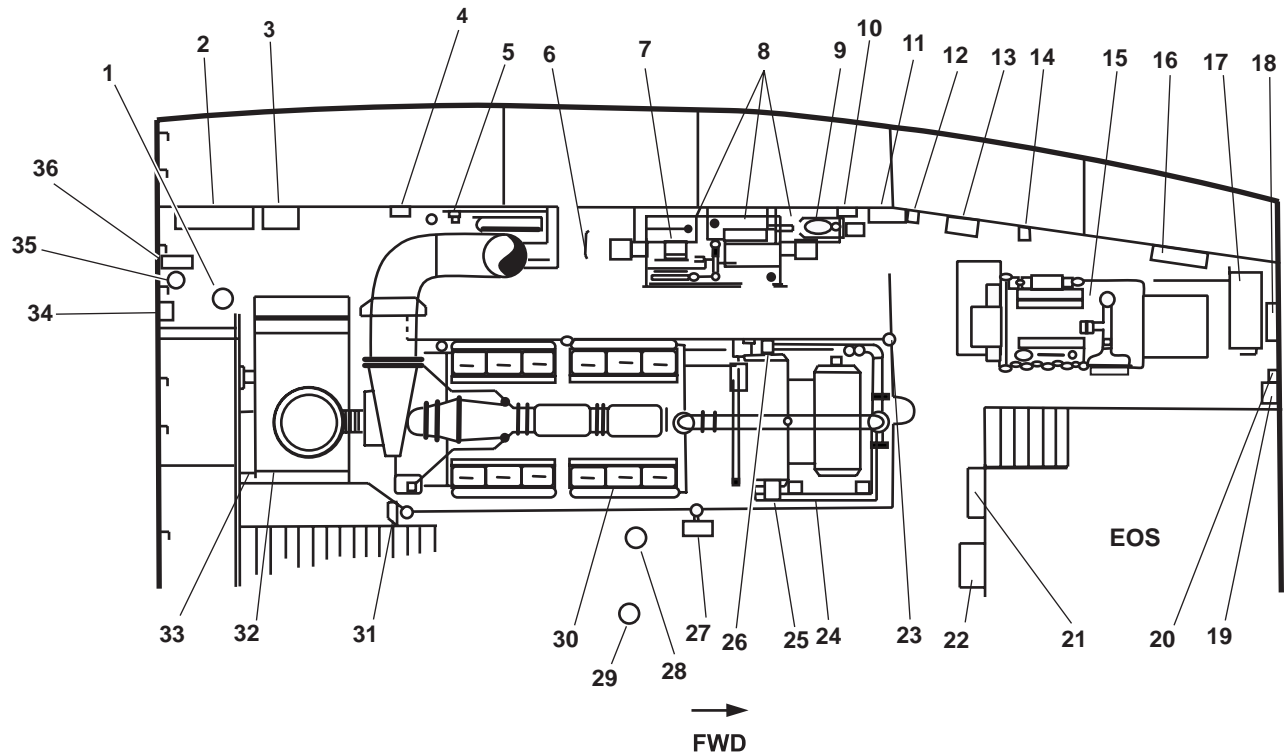

Figure 1. Engine Room, Port Side
1. FM-200 warning light (figure 1, item 1). The FM-200 yellow warning light illuminates when the FM-200 system is activated.
2. Reverse Osmosis Water Purification Unit (ROWPU) battery box (figure 1, item 2). This battery box contains two 12V batteries. The battery bank provides 24 Vdc to the ROWPU to maintain fresh water flush capabilities during vessel layup periods.
3. Drinking fountain (figure 1, item 3). The drinking fountain dispenses cold potable water.
4. ROWPU battery charger (figure 1, item 4). The battery charger maintains the charge of the ROWPU battery bank.
5. Lube oil purifier (figure 1, item 5). The lube oil purifier cleans the lubricating oil for the main engines.
6. Vertical ladder (figure 1, item 6). This ladder provides access to the port fuel oil day tank and the port life boat station on the 02 level.
7. Central hydraulic system hydraulic power unit (figure 1, item 7). The central hydraulic system hydraulic power unit provides hydraulic power for the crane, capstan, anchor windlass, and tow pins. It powers the tow machine when the hydraulic piping is aligned properly.
8. Transformers (figure 1, item 8). Three 440V/120V transformers provide 120V power for the load center distribution panel.
9. Lube oil transfer pump (figure 1, item 9). The lube oil transfer pump is an electrically powered pump used to transfer lube oil within the vessel.
10. Lube oil transfer pump discharge pressure gauge and the lube oil transfer strainer differential pressure gauge (figure 1, item 10). The lube oil transfer pump pressure gauge indicates the discharge pressure of the lube oil transfer pump. The lube oil transfer strainer differential pressure gauge indicates the differential pressure of the strainer.
11. Lube oil manifold (figure 1, item 11). The lube oil manifold provides centralized control of the lube oil piping system.
12. Lube oil transfer pump motor controller (figure 1, item 12). This controller turns the lube oil transfer pump ON and OFF.
13. Lube oil tank level indicator and hand pump (figure 1, item 13). The tank level indicator displays the amount of oil present in the tank. The hydraulic oil hand pump is used to transfer hydraulic oil from the hydraulic oil storage tank.
14. Ship's Service Diesel Generator (SSDG) 2 starting air pressure gauge (figure 1, item 14). This gauge indicates the amount of pressure available to the SSDG 2 starter.
15. SSDG 2 (figure 1, item 15). SSDG 2 is an air-started, fresh water-cooled, diesel engine-driven service generator providing electric power to the main switchboard.
16. Air receiver (figure 1, item 16). The 30 gallon (113.6 liter) air receiver stores air for the control air system.
17. Sewage discharge pump 2 (figure 1, item 17). Sewage discharge pump 2 is an electrically powered pump that pumps the contents of the sewage tank to the sewage shore connection or overboard.
18. Control air dryer (figure 1, item 18). The control air dryer removes moisture from the control air system.
19. Sewage discharge pump 2 motor controller (figure 1, item 19). The sewage discharge pump 2 motor controller turns sewage discharge pump 2 ON and OFF.
20. Sewage discharge pump 2 pressure gauge (figure 1, item 20). This pressure gauge indicates the discharge pressure of sewage discharge pump 2.
21. Engine room distribution panel no. 4 (figure 1, item 21). The engine room distribution panel provides power distribution for engine room equipment.
22. Monitoring system Central Processing Unit (CPU) with 24 volt machinery DC control distribution panel (below) (figure 1, item 22). The monitoring system CPU cabinet contains the central processor for the machinery plant monitoring system. A 24 volt machinery DC control distribution panel provides circuit protection for machinery monitoring, SSDG 2, FM-200 shutdown, rudder angle, steering gear alarm, pump drive engine, and bow thruster engine.
23. Fire extinguisher (figure 1, item 23). The fire extinguisher is used to extinguish small fires.
24. Engine control panel (figure 1, item 24). This panel provides the controls and status displays for the main engines.
25. Engine alarm horn (figure 1, item 25). The engine alarm horn sounds the engine alarm, indicating various engine conditions and emergencies.
26. Lube oil prime pump and controller (figure 1, item 26). The lube oil prime pump primes the main propulsion engine for operation. Its controller also operates the lube oil pump, permitting the operator to select ON and OFF.
27. Fire station 2 (figure 1, item 27). The firefighting station uses raw water and is equipped with 50 feet (15.24 m) of 1-1/2 inch hose and an all-purpose nozzle.
28. Machinery plant alarm rotating beacon (figure 1, item 28). A blue light illuminates and the beacon rotates when the machinery plant alarm is activated.
29. General alarm rotating beacon (above) (figure 1, item 29). A red light illuminates and the beacon rotates when the general alarm is activated.